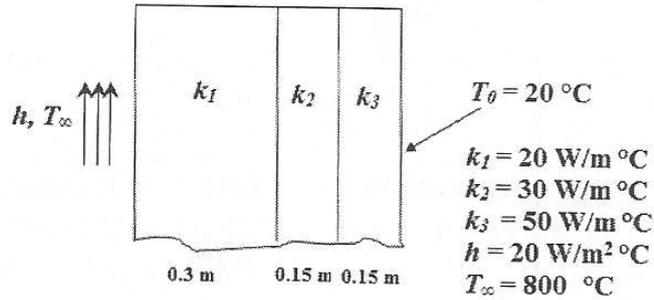

Figure 8b
- B A composite wall consists of three materials is shown in Figure 8b. The outer temperature is $T_0 = 20^{\circ}\text{C}$. Convection heat transfer takes place on the inner surface of the wall with $T_{\infty} = 800^{\circ}\text{C}$ and $h = 25\text{W}/(\text{m}^2\text{ }^{\circ}\text{C})$. Determine the temperature distribution in the wall. 10